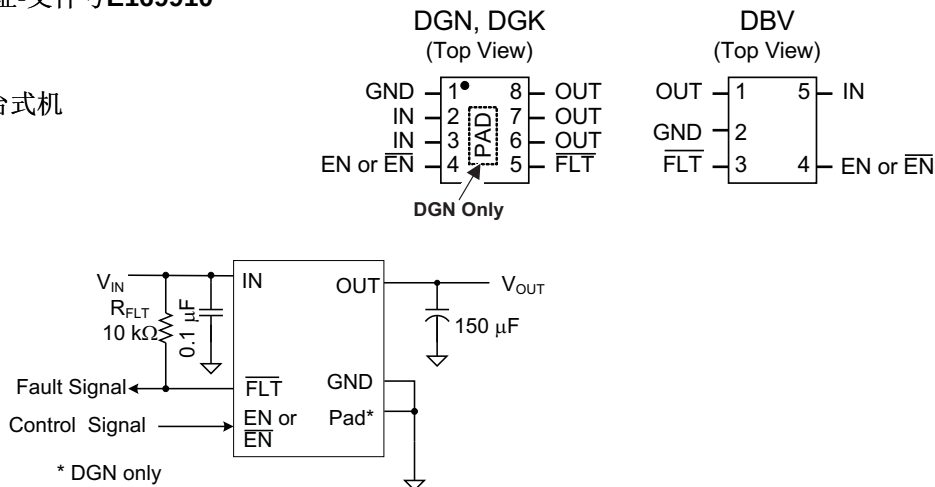

图 1. 典型应用
(1) Absolute maximum ratings apply over recommended junction temperature range.
(2) Voltages are with respect to GND unless otherwise noted.
(3) See the Input and Output Capacitance section.
(4) V_{OUT} was surged on a pcb with input and output bypassing per Figure 1 (except input capacitor was 22 µF) with no device failures.